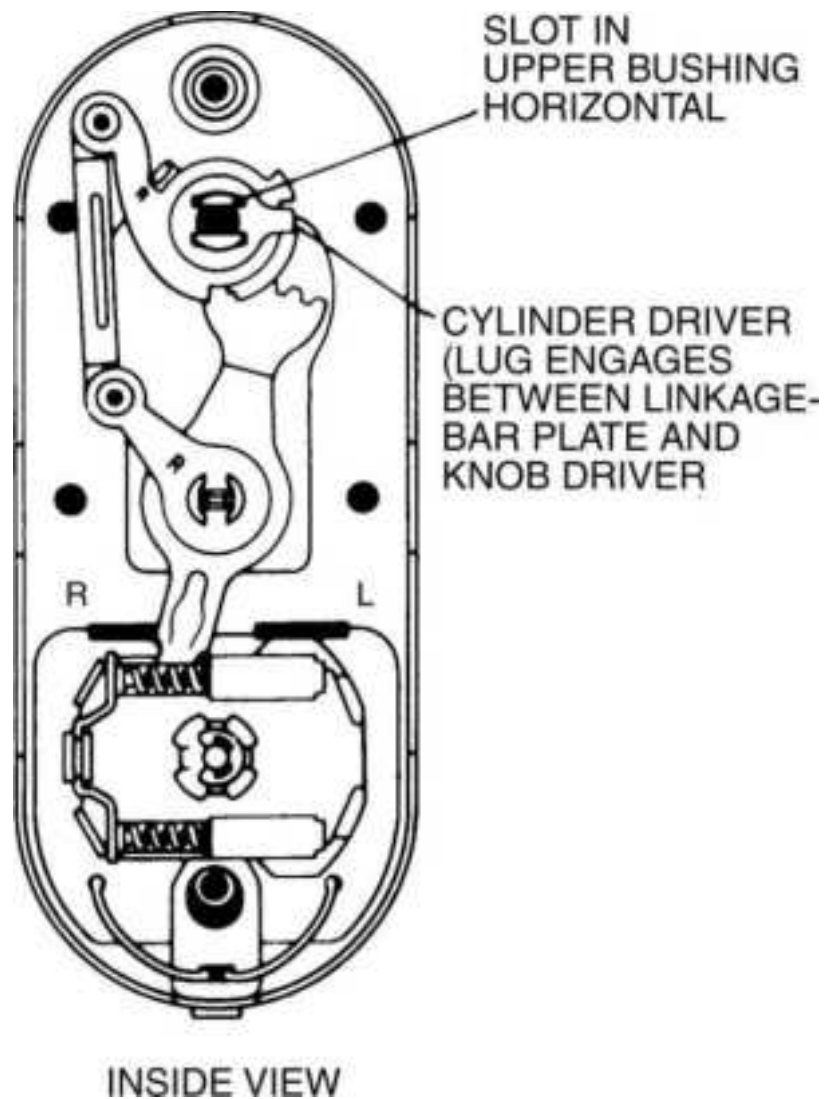

**Figure 13.109** Right-hand conversion, Step 17.
17. With the upper bushing slot in the horizontal position, install the cylinder driver (Fig. 13.109 ).